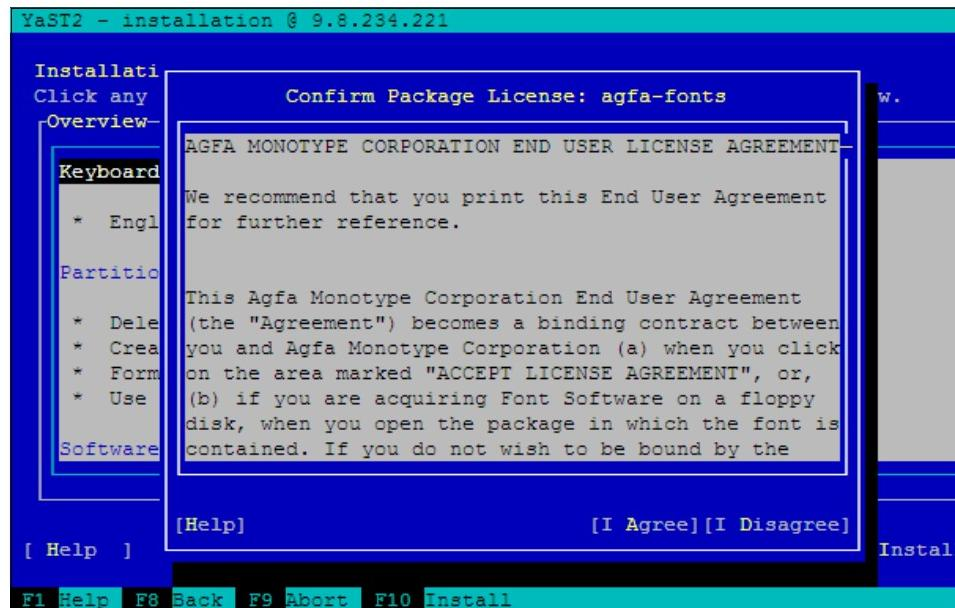

Figure 9-21 AGFA License Agreement
15. Select [I Agree] to the AGFA Monotype Corporation License Agreement, as shown in Figure 9-21 on page 383.